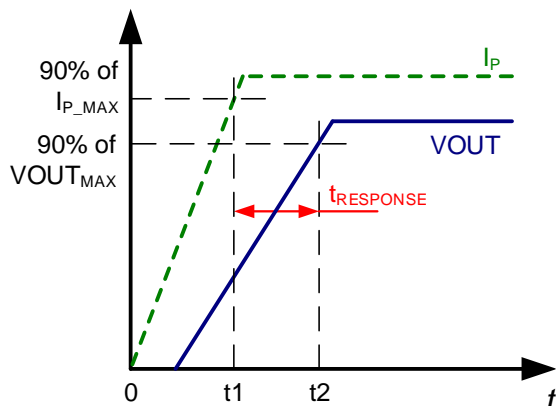

Figure 8: Response Time ( $t_{RESPONSE}$ )
2.  $t_2$ :  $V_{OUT}$  reaches 90% of its output, as it corresponds to the applied primary current (see Figure 8).